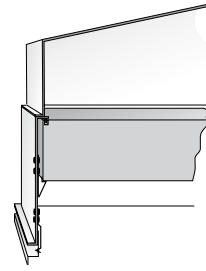

Figure 3. CLH, with gel-sealed filter.
- Press in the springs that hold the filter in position, see figure 3. To install a new filter, carefully press the filter into position until the springs firmly grip the filter.